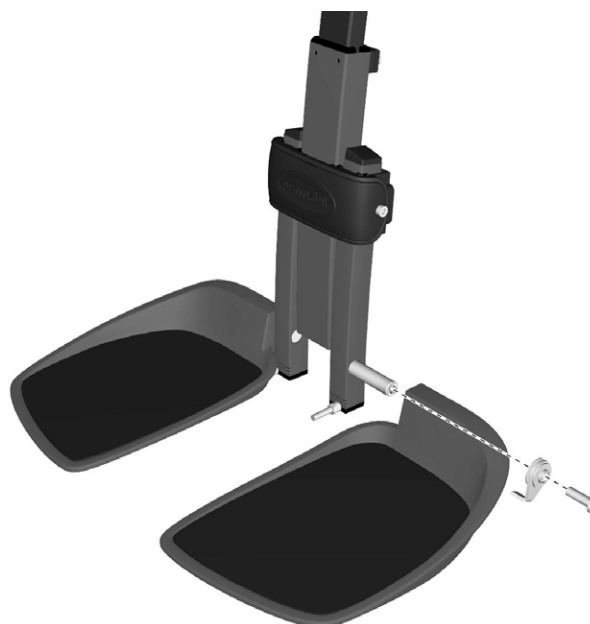

Figure 237. The footplate and its friction brake.
3. Remove the footplate friction brake by taking the parts off the shaft. See fig. 237.
4. Remove the footplate by taking it off the shaft. See fig. 237.
1. Assemble the footplate by sliding it onto the shaft. See fig. 237.
3. Fit the screw that holds the footplate in place. See fig. 237. Tighten the screw using a torque wrench. **Tightening torque 24 Nm / 17.7 Ft/lbs.**